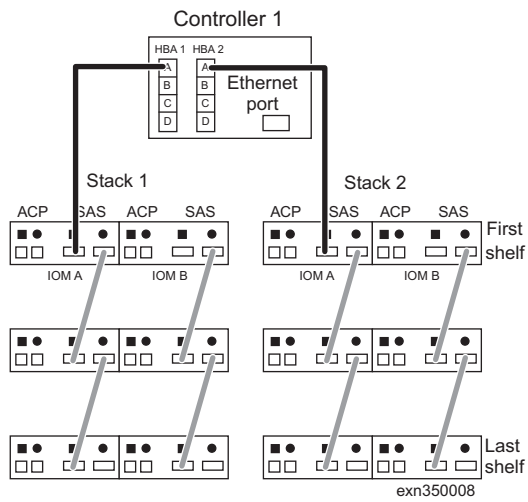

Figure 9. Cable the first SAS connections
2. Cable the first shelf SAS connections as shown in Figure 9.